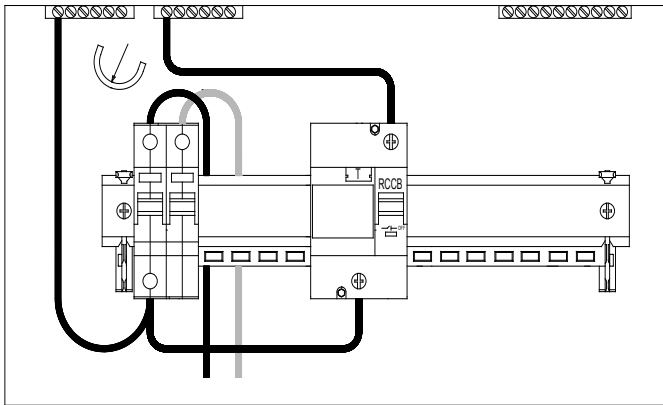

Fig 5.2
Connectors are supplied where required for RCCB connection. (See Fig 5.2)
- **Units with 2 neutral bars (Fig 5.2)** Remove the solid neutral links from between the neutral bars.
- Connect the neutral cables supplied with the split-load busbar to the appropriate terminals as shown. (Fig 5.2 or 5.3)